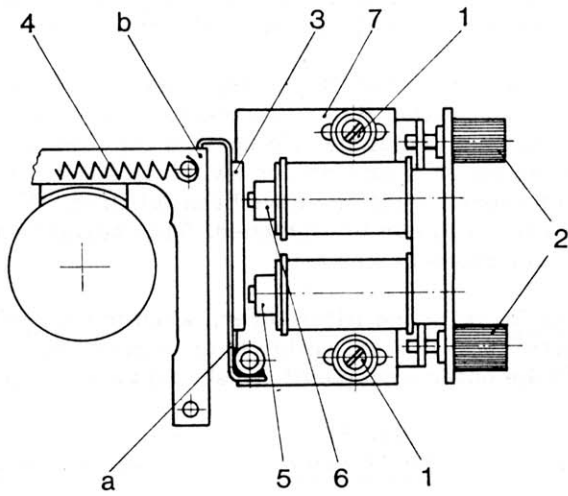

Fig. 5 Magnet holder
5. 8. Adjustment of the brakes (see Fig. 5)